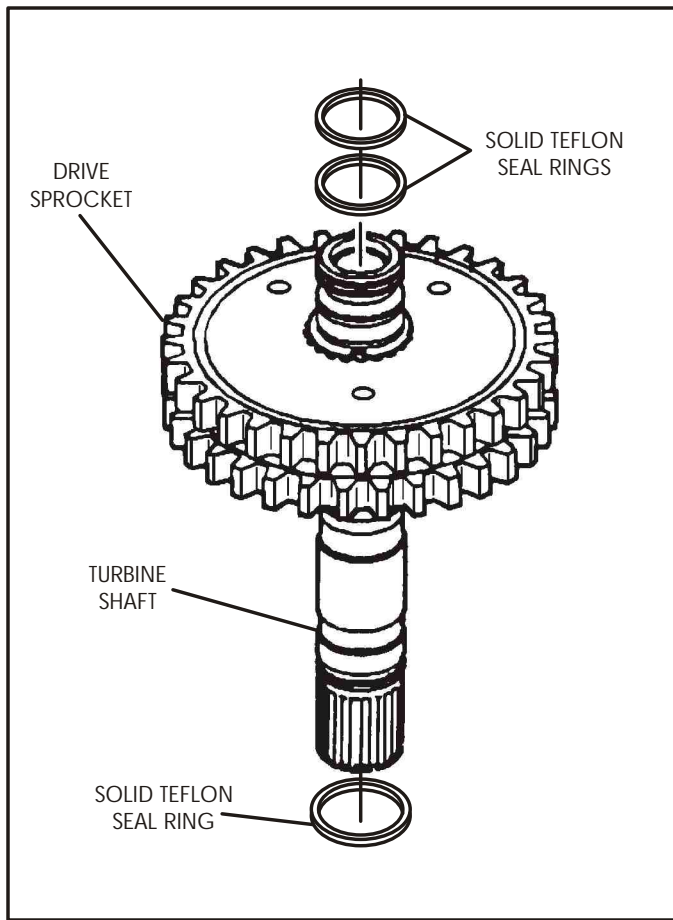

Figure 140
1. Cut the three solid sealing rings from turbine shaft using a sharp knife (See Figure 140).